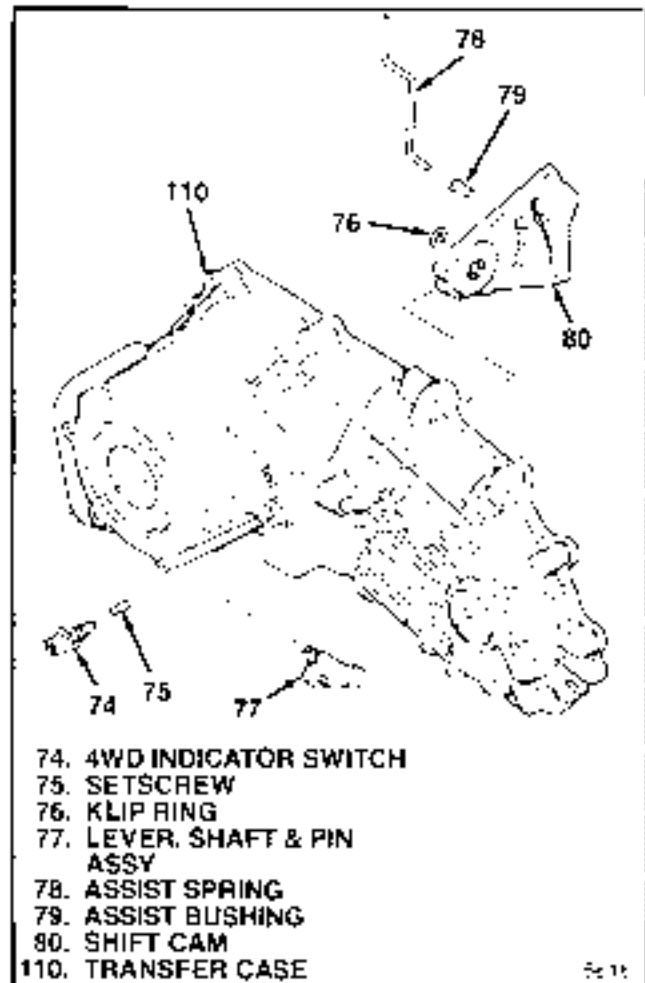
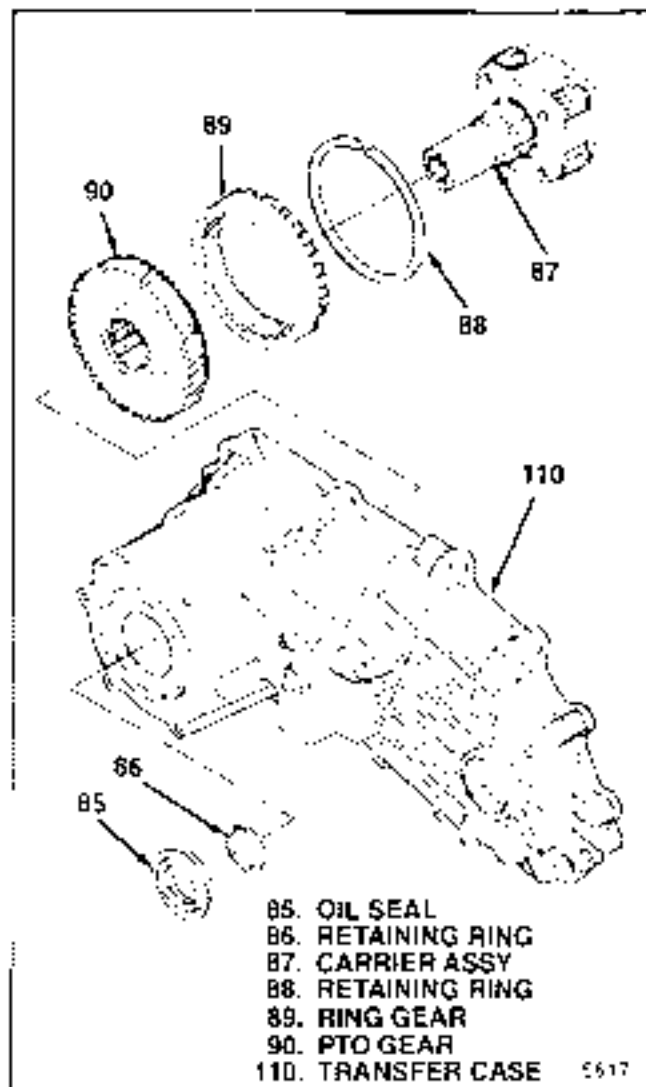

Figure 3-13. Mechanical Shift Cam Parts
Figure 3-14. Carrier Assembly and Ring Gear
**3-16. REMOVAL OF SHIFT CAM PARTS (MECHANICAL SHIFT TRANSFER CASE ONLY).** On mechanical shift units, remove the following (see figure 3-13):
- a. Remove 4WD indicator (74) through opening in transfer case (110) using set screw (75) in shift cam (80).
- b. Remove klip ring (76) and lever, shaft and pin assembly (77).
- c. Remove assist spring (78) and assist bushing (79).
- d. Remove shift cam (80) from transfer case (110).
**3-17. REMOVAL OF CARRIER ASSEMBLY AND RING GEAR.** From remaining transfer case assembly (85 through 110), remove the following (see figure 3-14):
- a. Pull oil seal (85) from transfer case (110).
- b. Remove retaining ring (86) from input shaft of carrier assembly (87).